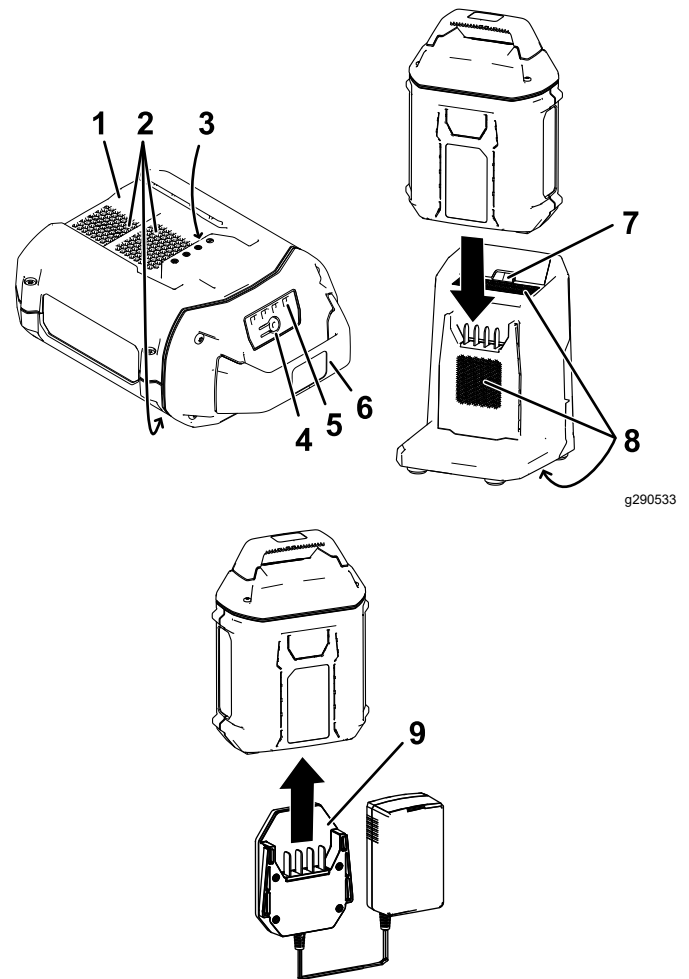

Figure 2
2. Line up the cavity in the battery pack (Figure 2) with the tongue on the charger.
3. Slide the battery pack into the charger until it is fully seated (Figure 2).